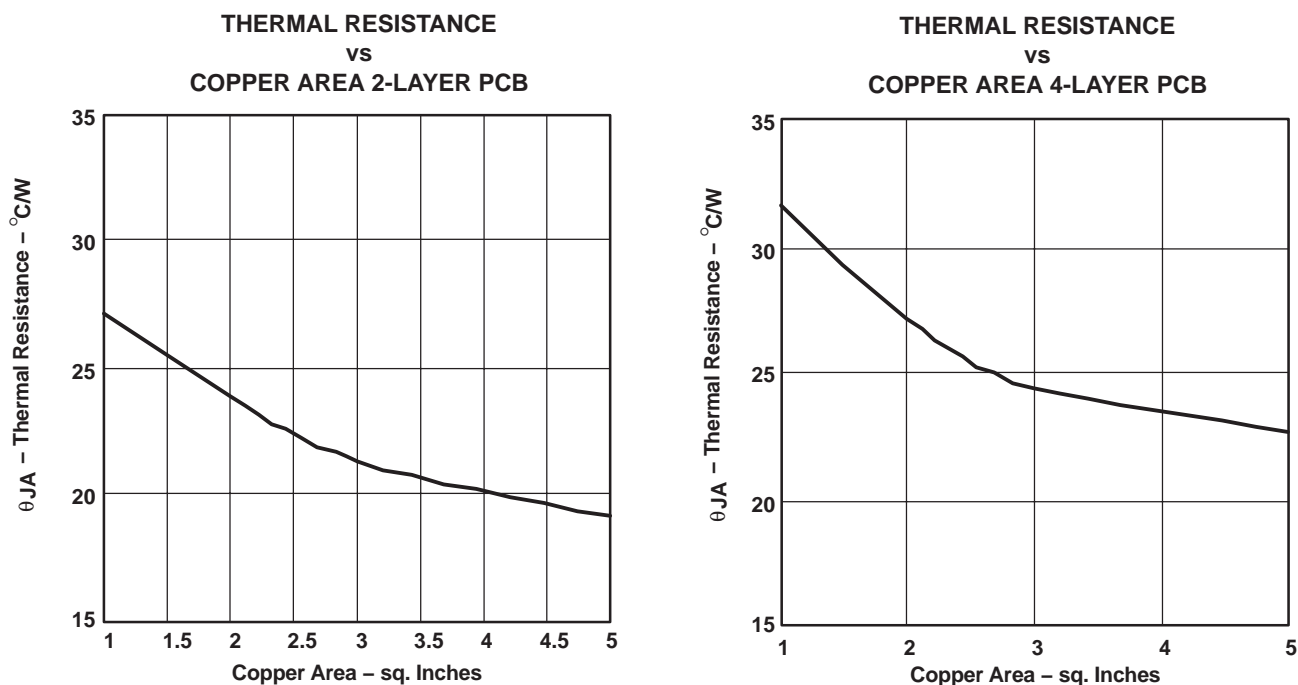
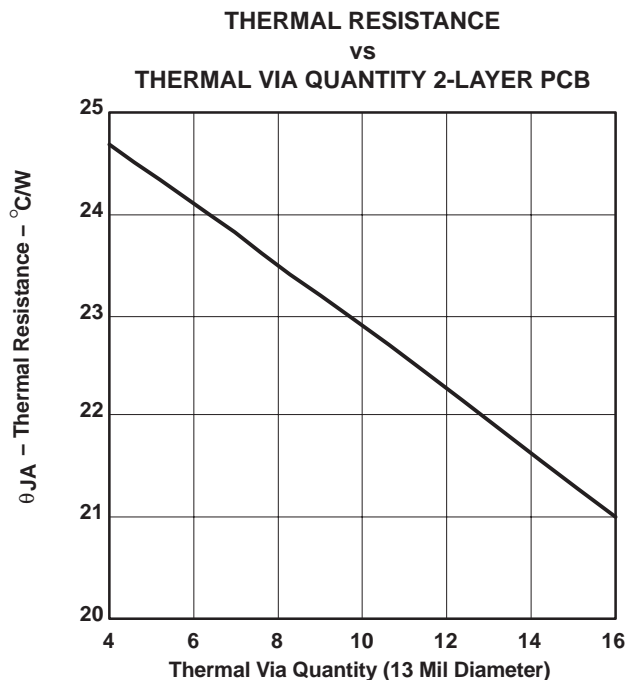

Figure 38. Thermal Resistance
Figure 39. Thermal Resistance
$$\Theta_{JA} = 19^{\circ}\text{C/W} \quad (2\text{-Layer PCB, } 5 \text{ sq. in. copper, see Figure 38) \quad (8)$$
Figure 38 and Figure 39 show the results of several thermal experiments conducted with the TPA3002D2. Both figures show that the best thermal performance can be achieved with more copper area for heat dissipation and an adequate number of thermal vias.
Figure 38 shows two curves for a 2-layer and 4-layer PCB. The 2-layer PCB layout was tightly controlled with a fixed amount of 2 oz. copper on the bottom layer of the PCB. The amount of copper is shown on the x-axis. Nine thermal vias of 13 mil (0,33 mm) diameter were drilled under the PowerPad and connected to the bottom layer. The top layer only consisted of traces for signal routing.
Figure 39 shows the effect of the number of thermal vias drilled under the PowerPAD on the thermal performance of the PCB. The experiment was conducted with a 2-layer PCB and 3 square inches of copper on the bottom layer. For the best thermal performance, at least 16 vias in a 4x4 pattern should be used under the PowerPAD. Refer to the TPA3002D2 EVM User's Manual (SLOU151), for an example layout with a 4x4 via pattern. PCB gerber files are available at request.